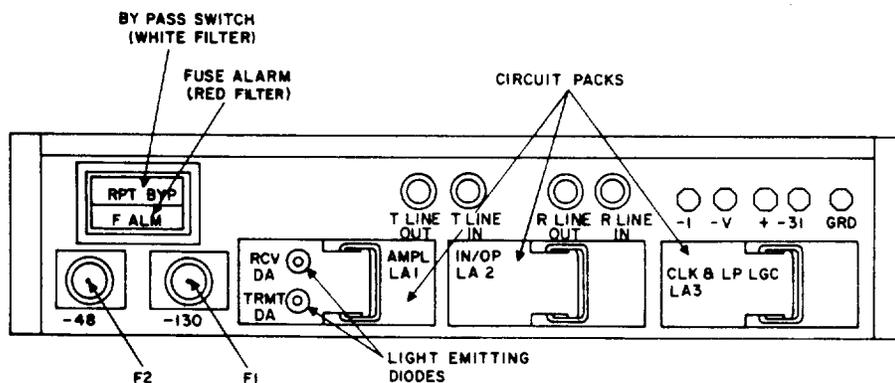

Fig. 1—Office Configuration of 56-kb/s Repeater, List 2
6.02 Verify that the -48 and +130 or the -130 volt indicating fuses are good by observing the fuse indicators on top of the fuses and the F ALM lamp (Fig. 1). If either indicator bead is protruding or the F ALM lamp is lit, replace the blown fuse. After replacement, observe that the fuse indicator bead is recessed and the F ALM lamp is extinguished.